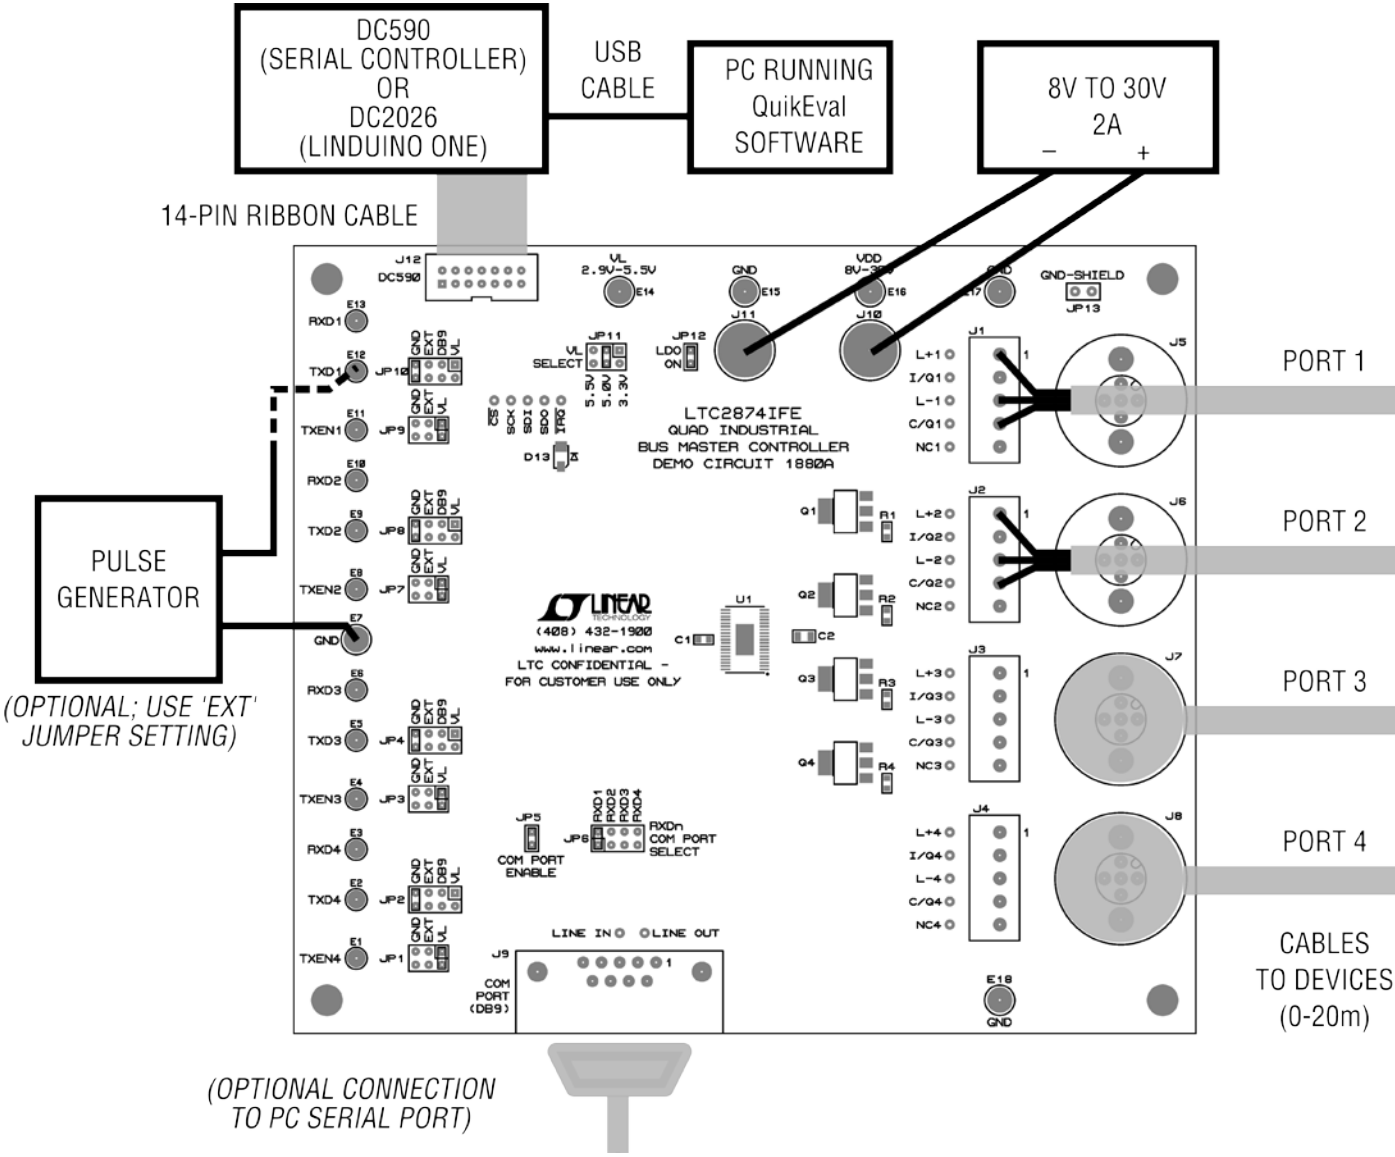

Figure 1. Proper Setup
6. Connect the power supply between  $V_{DD}$  and GND on the DC1880A board as shown in Figure 1.